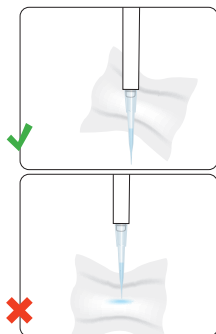

Figure 9. Removing Droplets on the Tip
▶ Before dispensing, carefully remove droplets on the outside of the tip with a lint-free cloth, being sure to stay clear of the tip opening. (figure 9)
► Before dispensing, carefully remove any droplets on the outside of the tip with a lint-free cloth, making sure to avoid the tip opening. (figure 9)